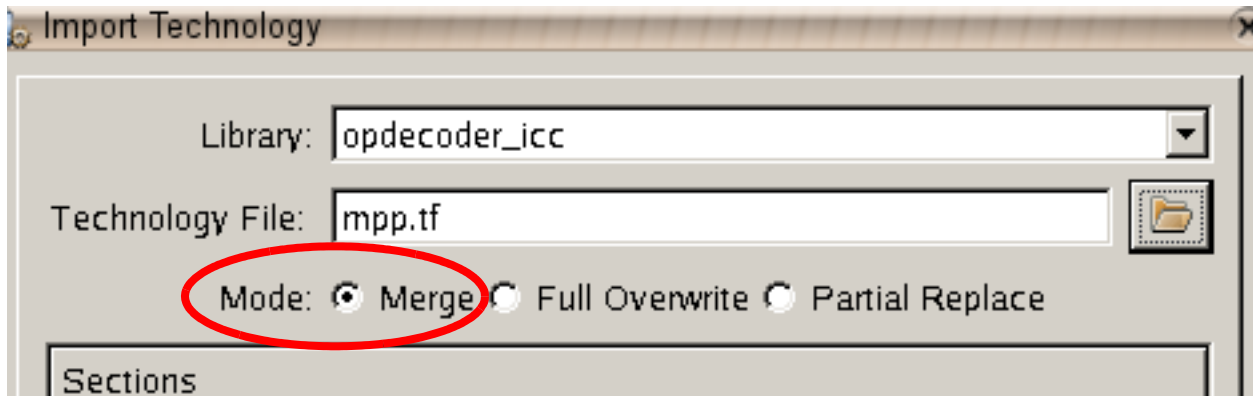

Figure 29 Merge Mode
3. Import the technology file in the IC Compiler library using Merge mode (shown in Figure 29).